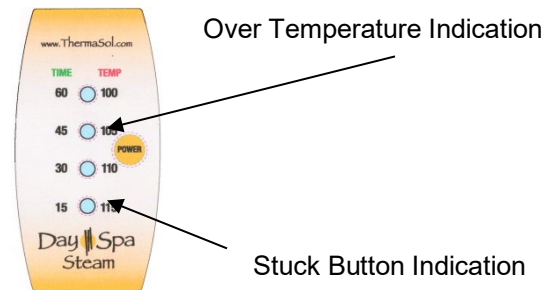

Figure 11
5. Diagnostic Feature. The Day Spa TT control has a unique diagnostic feature. If there is a malfunction within the unit, it will alert you. The red 105°F LED will flash if the shower area exceeds 135°F, and the red 115°F LED will flash if the control button becomes stuck. If any of these diagnostics happen the unit will shut down and lock out all user interfaces. To reset the unit, power will need to be reset at the breaker or at the steam distribution system switch. Contact a ThermaSol technician at **(800) 776-0711** for further trouble shooting steps. **(Figure 11)**